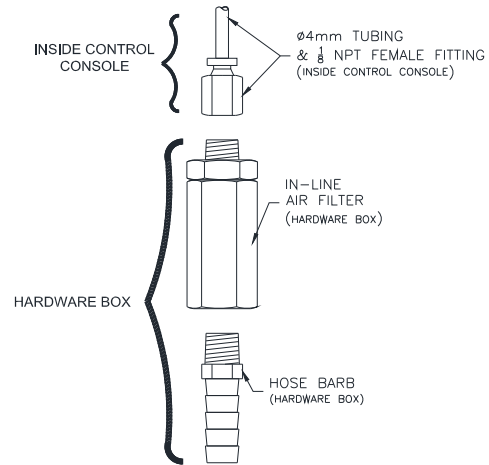

Fig. 6 – Air Connection
- 14) Inside the control console locate the (2) Ø4mm air lines. One will lead to the pads, the other air line will have a 1/8 NPT female fitting to connect the inline air filter and hose barb (from the hardware box) to, **Fig. 6**.